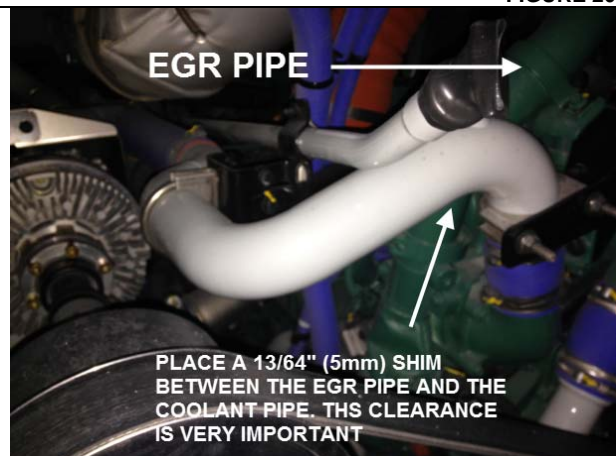

FIGURE 21
29. Place a 13/64" (5mm) shim between the coolant pipe and the EGR pipe so that a functional clearance will remain once the clamps and U-clamps will be tightened (FIGURE 21).